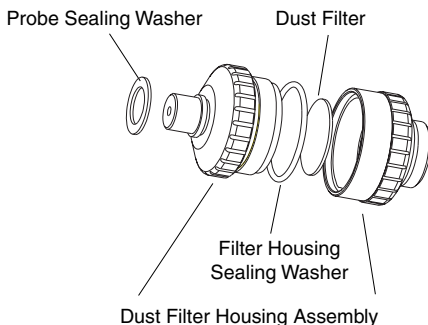

Figure 4.3 Dust Filter Assembly
- 1) Unscrew the filter housing assembly (Figure 4.3).